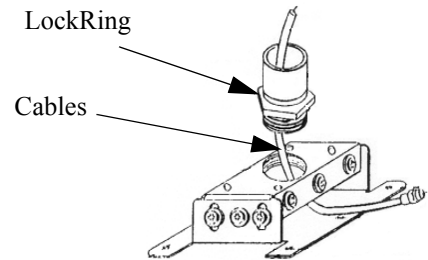

Figure 6. Lock Ring and Cables on RPA
3. Thread the locking ring against the RPA to lock the RPA in position and, if desired, route the cables through the RPA and pipe as shown in Figure 6.